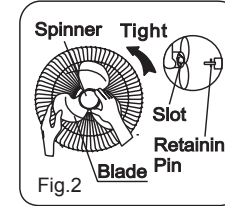

Fig.2
2. Insert the blade into shaft, and make sure the rotor shaft pin is fitted into groove of the blade. Turn the spinner counterclockwise to tighten the blade. (Fig.2)